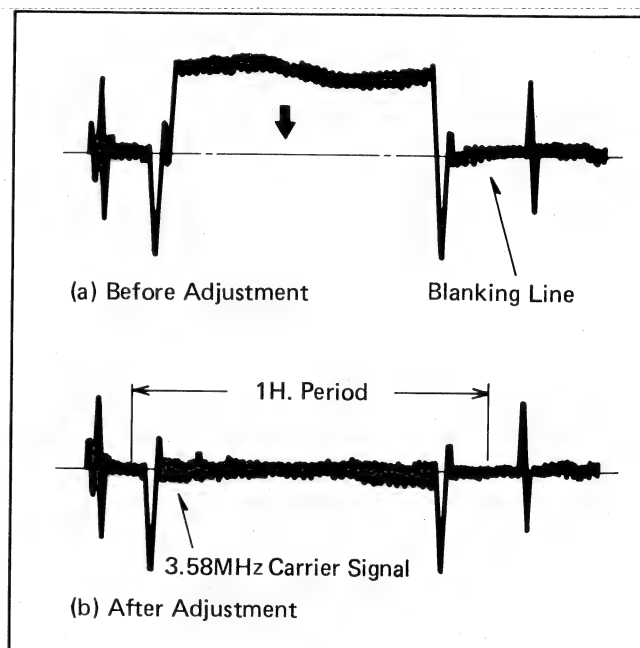

Fig. 24 Waveform of Proper Adjustment
6. Now, adjust the horizontal size control VR619, so that the signal is centered on the blanking line, as shown in Fig. 24. Trigger the oscilloscope with test point TP607.